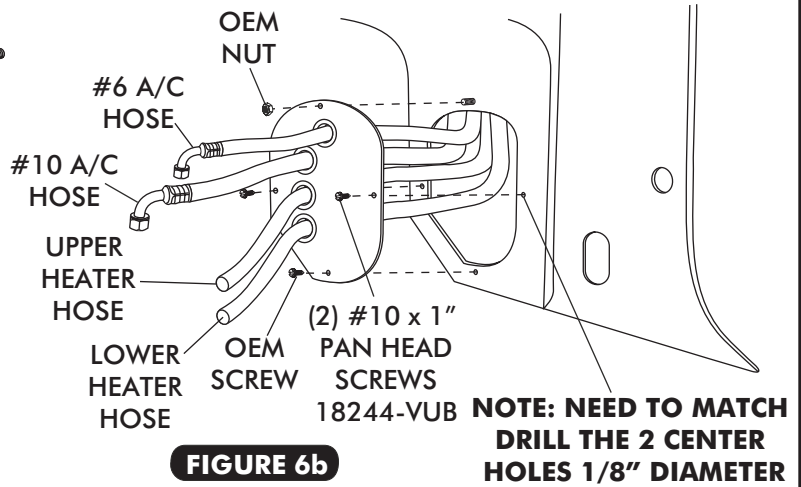

FIGURE 6b
- ❑ INSTALL (4) GROMMETS IN KICK PANEL COVER, SEE FIGURE 6b BELOW.